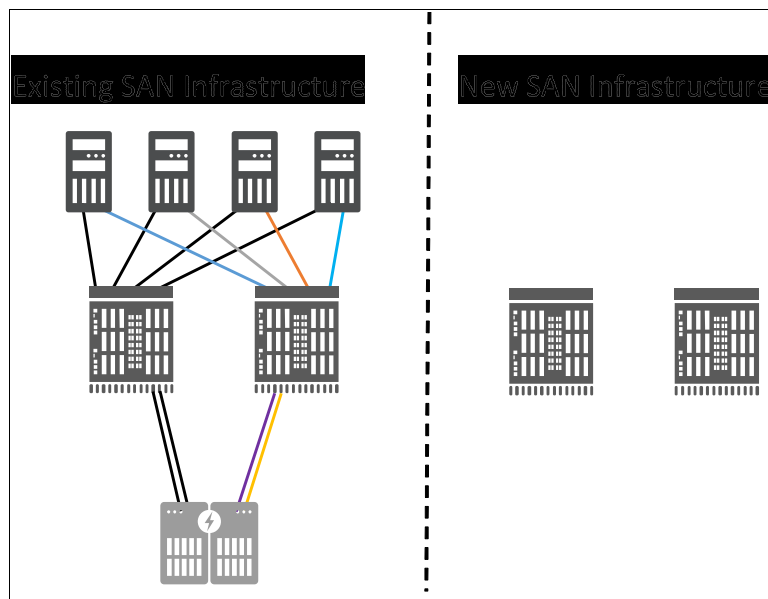

Figure 5-15 SAN Director migration example (setting up new SAN)
- ▶ Preliminary work: Run the IBM b-type Gen 7 SAN Health tool to capture a snapshot of your environment and determine whether you have any current “network health” problems that need attention before the migration (see Figure 5-15 for migration example).